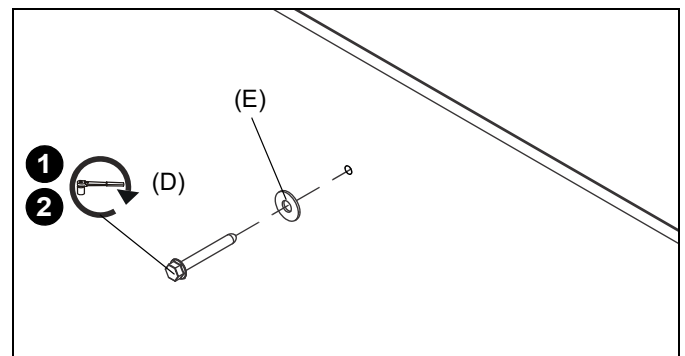

Figure 22
- Use one 5/16" x 2-1/2" hex flange head lag bolt (D) and one 5/16" washer (E) through product and into pilot hole. (See Figure 22)